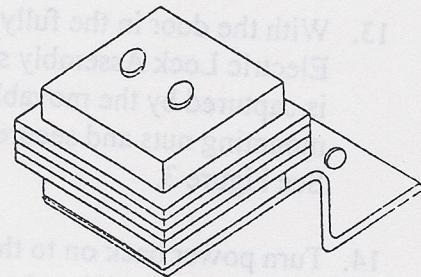

Figure 1
3. Assemble the bracket and transformer with the screw located on the transformer. See Figure 1.
6. Drill an access hole in the nut track flanges large enough to fit the bolt head. Install two (2) 3/8-16 x $\frac{1}{2}$ bolts into the bolt head track. Slide the bolts to the approximate center of the door opening. It may be necessary to temporarily remove a rectangular plate holding the track in position to locate the two bolts.